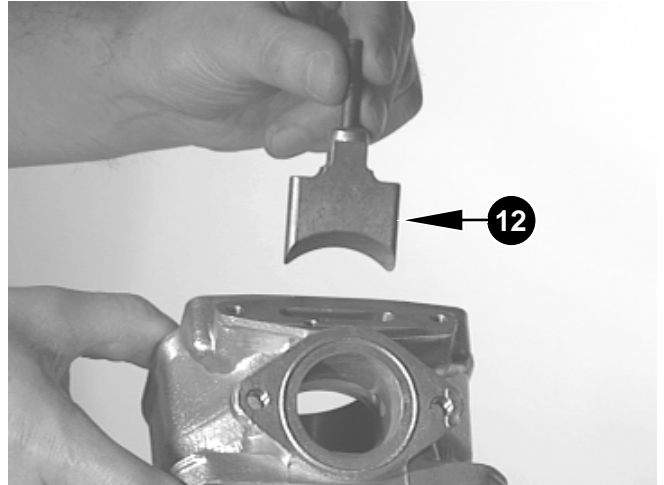

Figure 40
- ⇒ Slide the exhaust valve (12) with the fitted stud (11) into the cylinder in the specific position as depicted in the fig. 40.
- ⇒ Put the o-ring (13) on the stud (11).
- ⇒ Place a new gasket (7) such on the cylinder that the impulse bore (14) on the cylinder corresponds with the respective hole in the gasket (7).
- ⇒ Attach the valve rod housing (6) with the recess towards the exhaust socket on the cylinder, with the Allen screws (5) secured by spring washers.